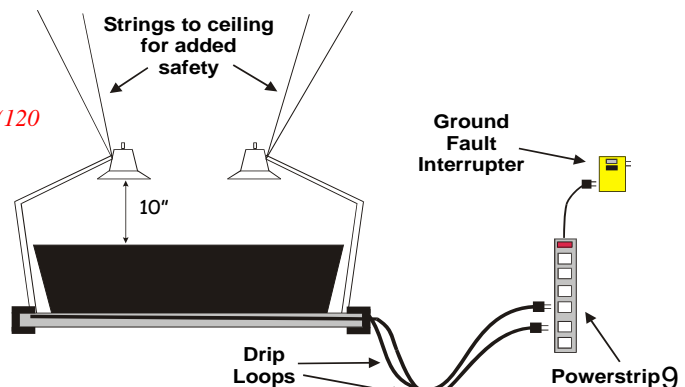

Fig.1 -Tank Setup
3. Assemble the lights and clamp them to the table so they can sit about 8" above the top of the chamber. Plug the lights into the powerstrip. Install the light bulbs into the lights. Make sure a drip loop* is set up to prevent water from accidentally dripping into the powerstrip socket (Fig. 1).
3. Set up drip loops on all cords so that water cannot run into the outlet. (See Fig. 1)